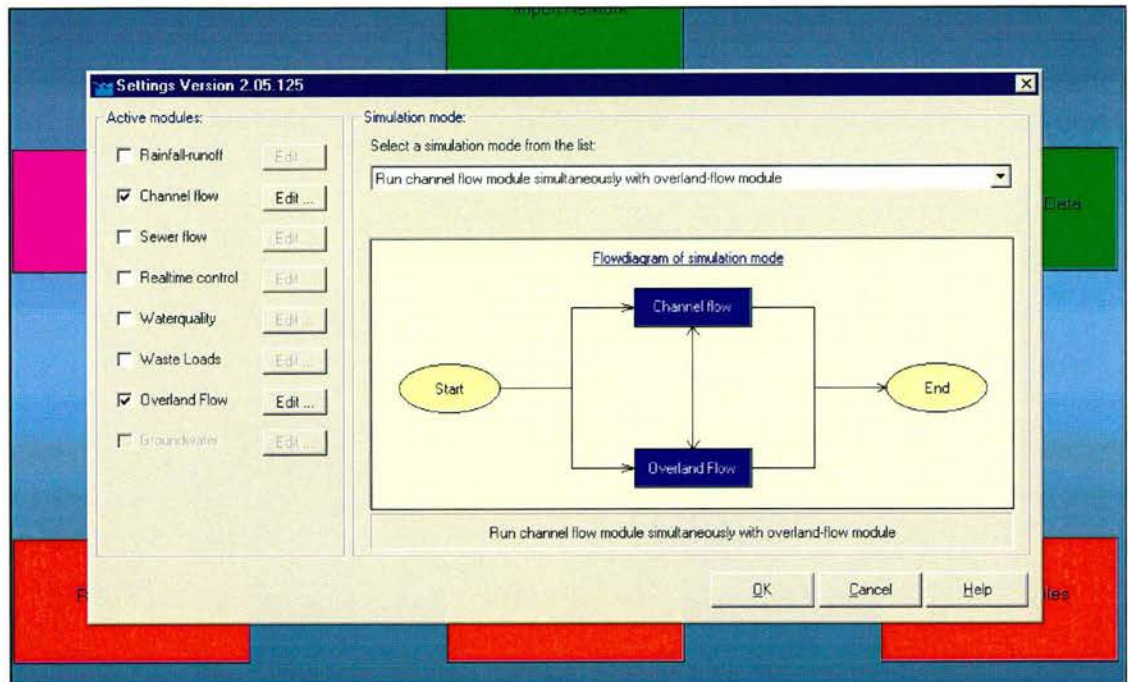

Figure 5.1 Settings, choice of the simulation mode
At the **Settings** menu you will be able to activate the two dimensional “Overland Flow” (OF) module. Notice that you cannot choose the Overland Flow module alone. It will always work in combination with the “Channel Flow” (CF) module (See Figure 5.1).